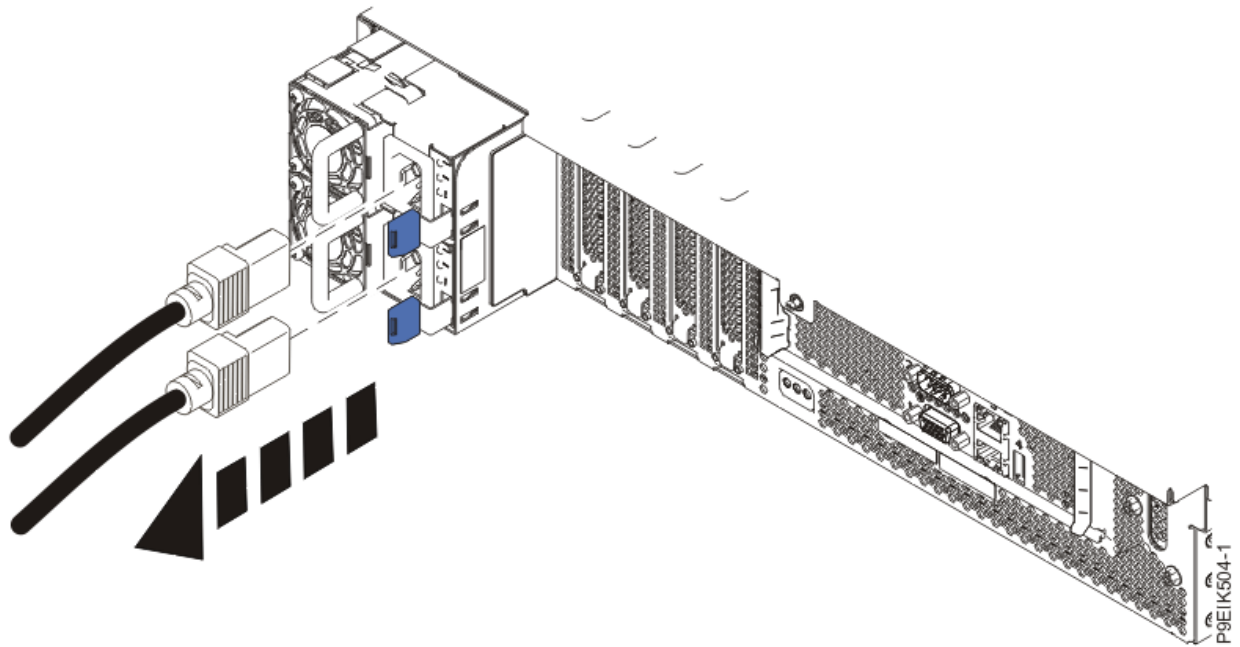

Figure 37. Removing the power cords from the system
4. Disconnect the power cords from the system unit as shown in Figure 37 on page 51.